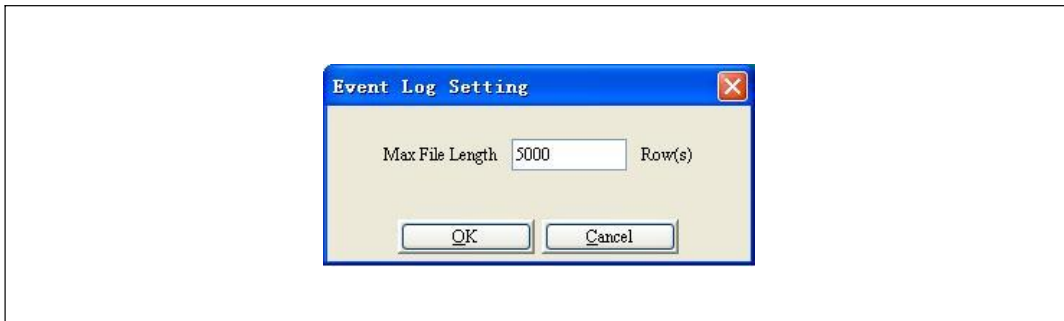

Figure 102. Event Log Setting Window
- To set the maximum Event Log file length for any Dell UPS monitored by the Network Management Card, select **Event Log Setting** from the **SNMP** menu. The default file length is 5,000 rows, and the maximum value is 100,000 rows (see Figure 102).